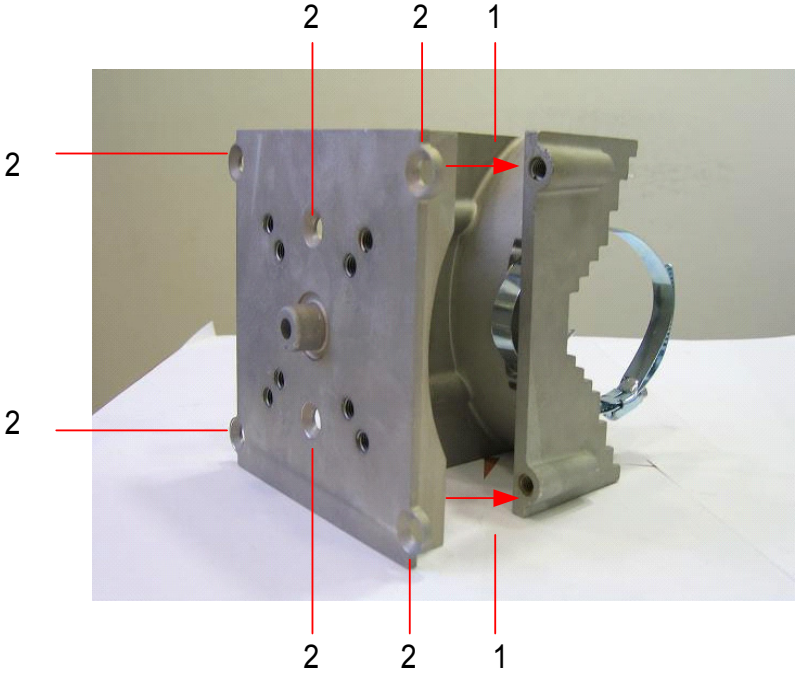

Figure 3.4. **Attaching the Back Plate to the Pole Bracket**
4. Attach the back plate to the hose bracket as labeled #1 in Figure 3.4
- 5. Insert the six flathead bolts into the holes in the back plate labeled #2 in Figure 3.4 and tighten.